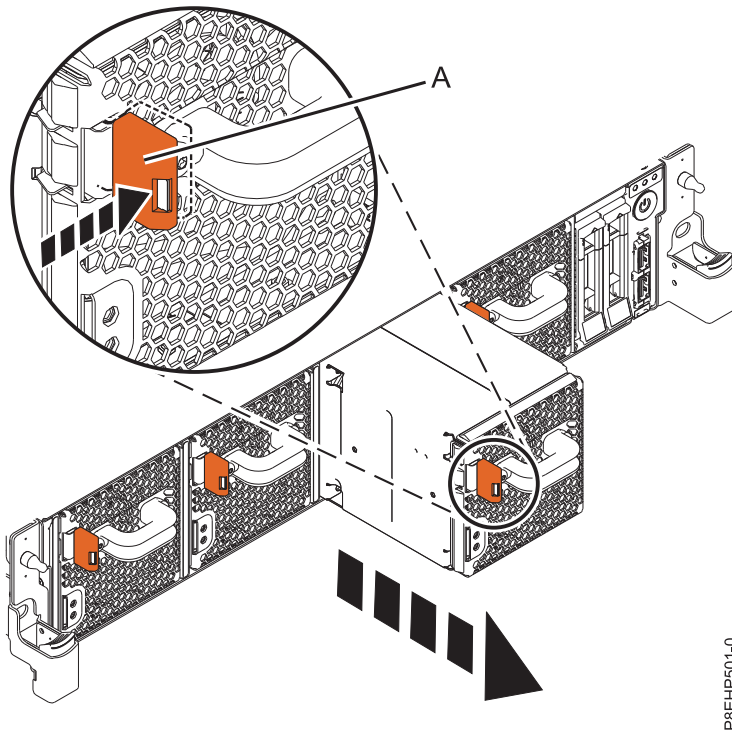

Figure 11. Removing a fan from the system
- a. To unseat the fan from its position in the system, press in the terracotta locking-tab (A) as shown in Figure 11.